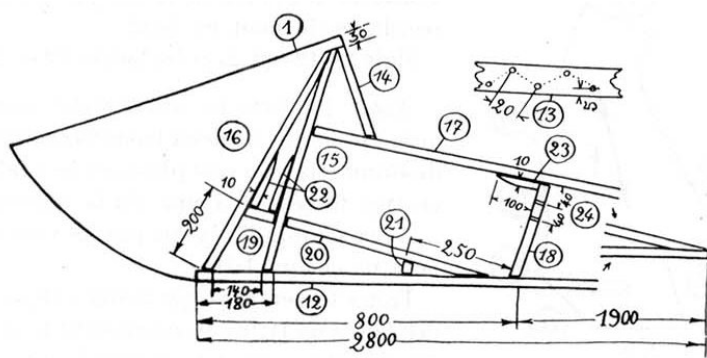

Figure 3.3: Layout of longerons and members, fuselage side
A longeron $20 \times 20, 2700^1$ mm (2m 70cm) is glued and nailed as at ⑫, fig. 3.3. It extends beyond the end of the side by 1900 mm.
¹Both here and in the figure M. Mignet mistakes himself and writes 2800; the measurement in fig. 3.3 is incorrect.
To glue, spread the glue on the first 800mm of the longeron, so there are no bare spots. A nail at each end will steady it while you nail in a zigzag pattern every 20mm or so, as seen at (13) in fig. 3.3. After nailing, the glue will be squeezed out along the entire joint. Plane it away when dry.